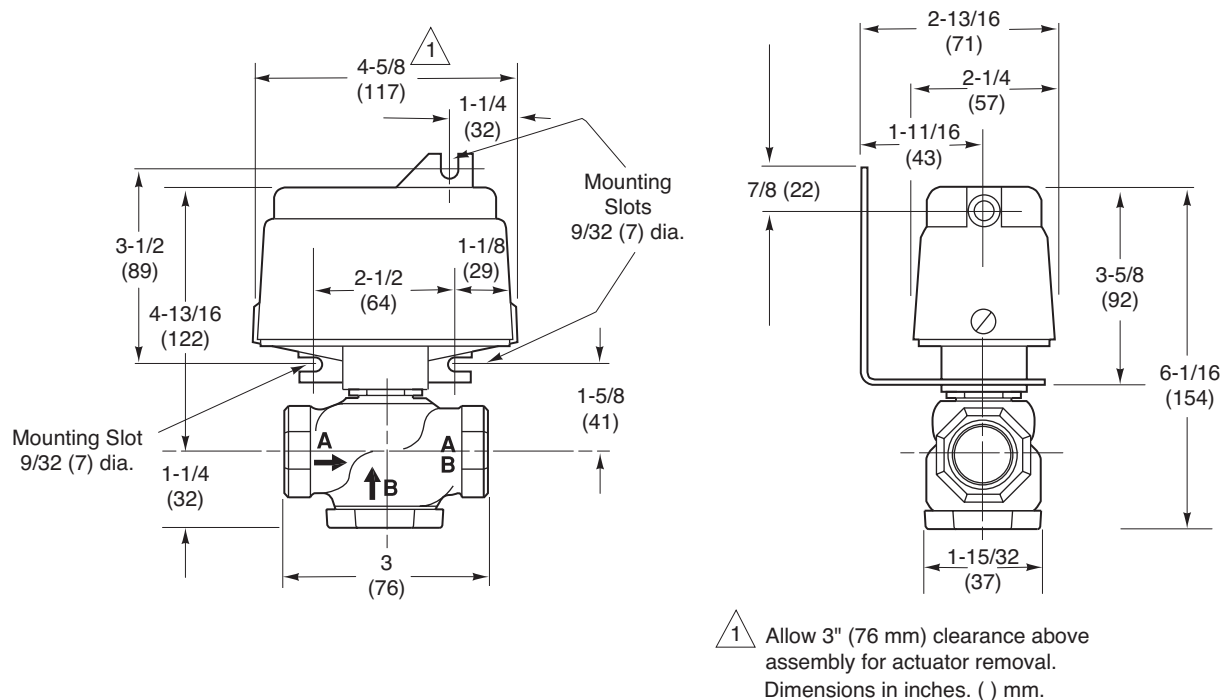

Figure-2 AL-161-4 Air Switching Valve Dimensions.
2. Use three (3) 1/4" (6 mm) mounting screws (not provided) to secure the AL-161-4 to the mounting surface.
3. See Figure-2 for mounting dimensions.
See Figure-2 for dimensional data.